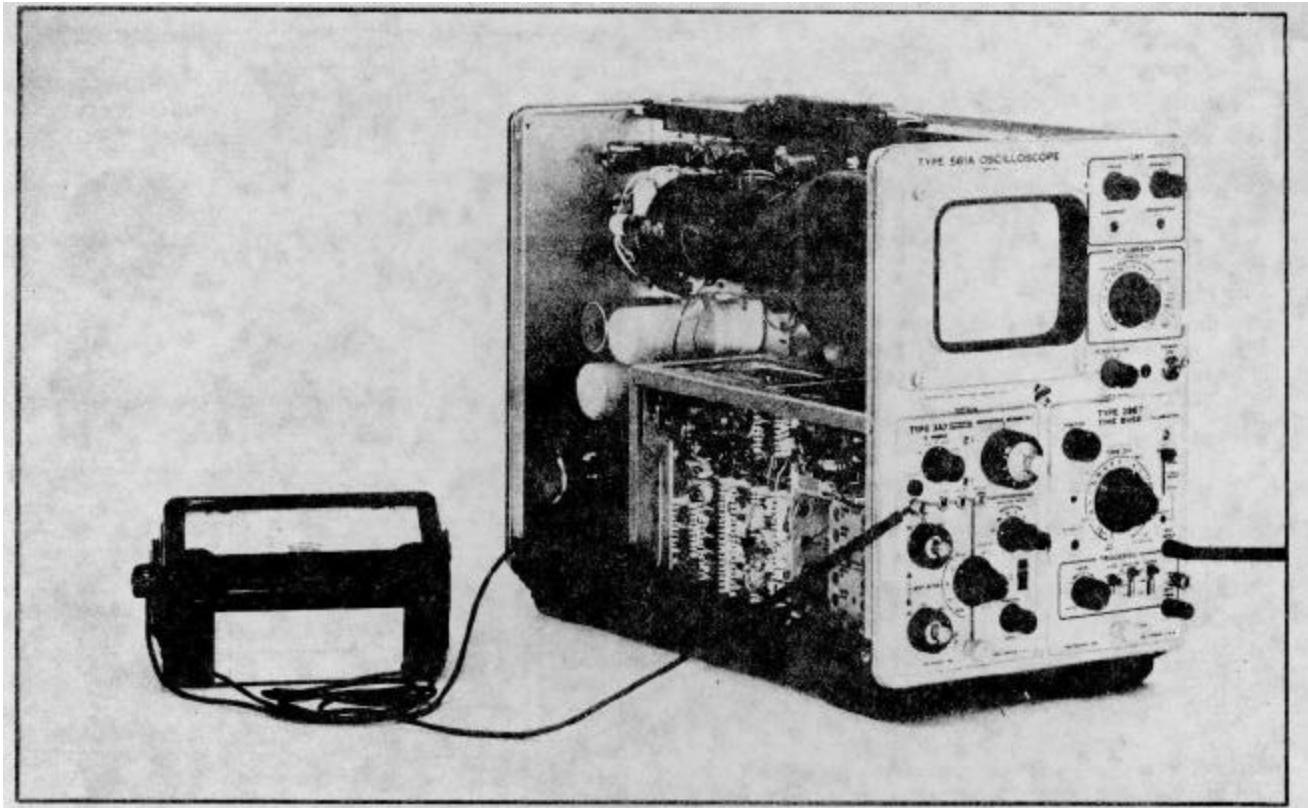
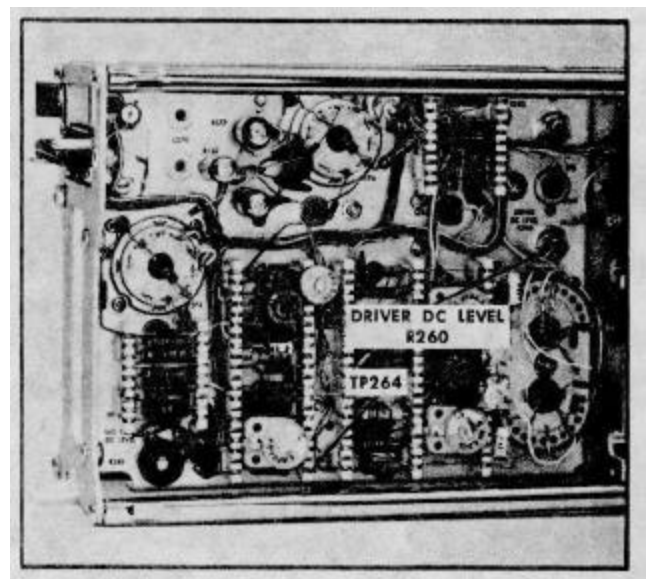
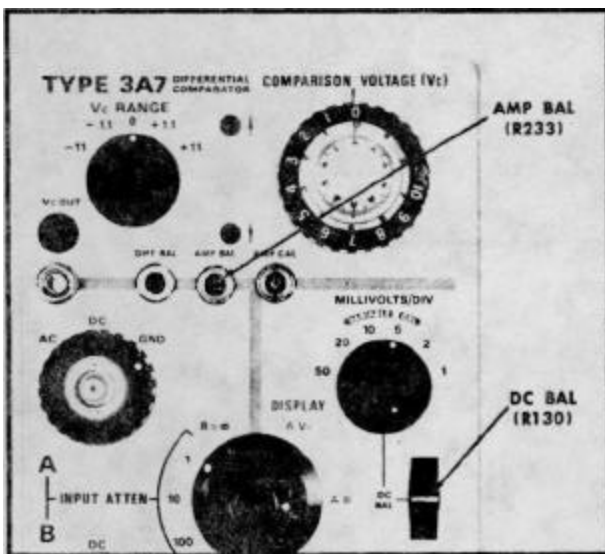
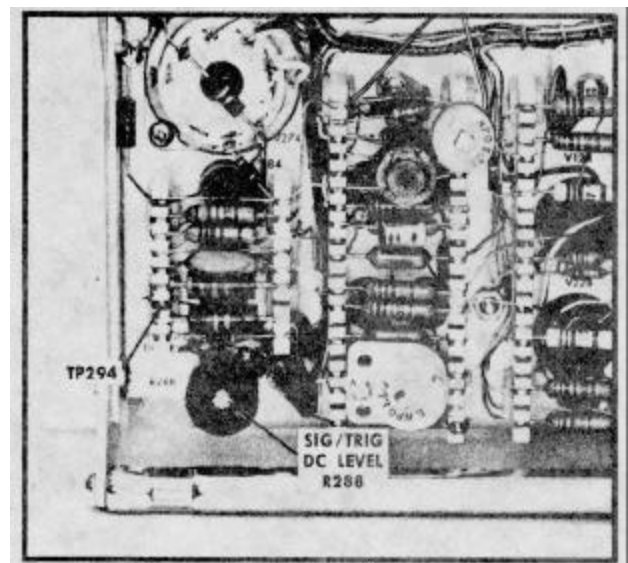

Fig. 5-6. Setup at completion of step 2a.
Fig. 5-7. Step 2 test point and adjustment locations.
Fig. 5-8. Steps 3 and 4 adjustment locations.
Fig. 5-10. Step 6 test point and adjustment locations.
2. Adjust DRIVER DC LEVEL R260 ❶
a. Connect a dc voltmeter between TP264 and ground. Fig. 5-6 shows the complete setup and Fig. 5-7 shows the test point location.
b. Adjust the DRIVER DC LEVEL control R260 (see Fig. 5-7) to obtain a reading of exactly +59 volts on the voltmeter.
3. Adjust DC BAL R130 ❷
b. Adjust the DC BAL control (see Fig 5-8) so there is minimum trace shift as the VARIABLE (MILLIVOLTS/DIV) control is rotated back and forth.
4. Adjust AMP BAL R233 ①
- c. Adjust the AMP BAL control R233 (see Fig. 5-8) so the position of the trace matches the position noted in step 4a. To check on the accuracy of the adjustment, set the MILLIVOLTS/DIV switch to its various positions. There should be no trace shift.
6. Adjust SIG/TRIG DC LEVEL R288 ①
- a. Connect a dc voltmeter between TP294 (see Fig. 5-10) and ground. The setup is similar to that shown in Fig. 5-6.
- b. Adjust the SIG/TRIG DC LEVEL control R288 (see Fig. 5-10) to obtain a zero reading on the voltmeter. Due to slight dc drift, exact zero is difficult to obtain. So allow a tolerance of about ± 0.1 volt. Be sure the trace coincides with graticule center when adjusting the control. Use the POSITION control to keep the trace centered.